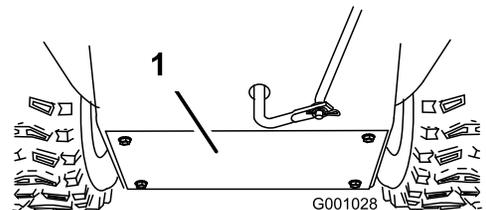

**Figure 42**
Lightly lubricate the hex shaft yearly with automotive engine oil (Figure 42).
**Important:** Do not get oil on the rubber wheel or the aluminum friction drive plate because the traction drive will slip (Figure 42).